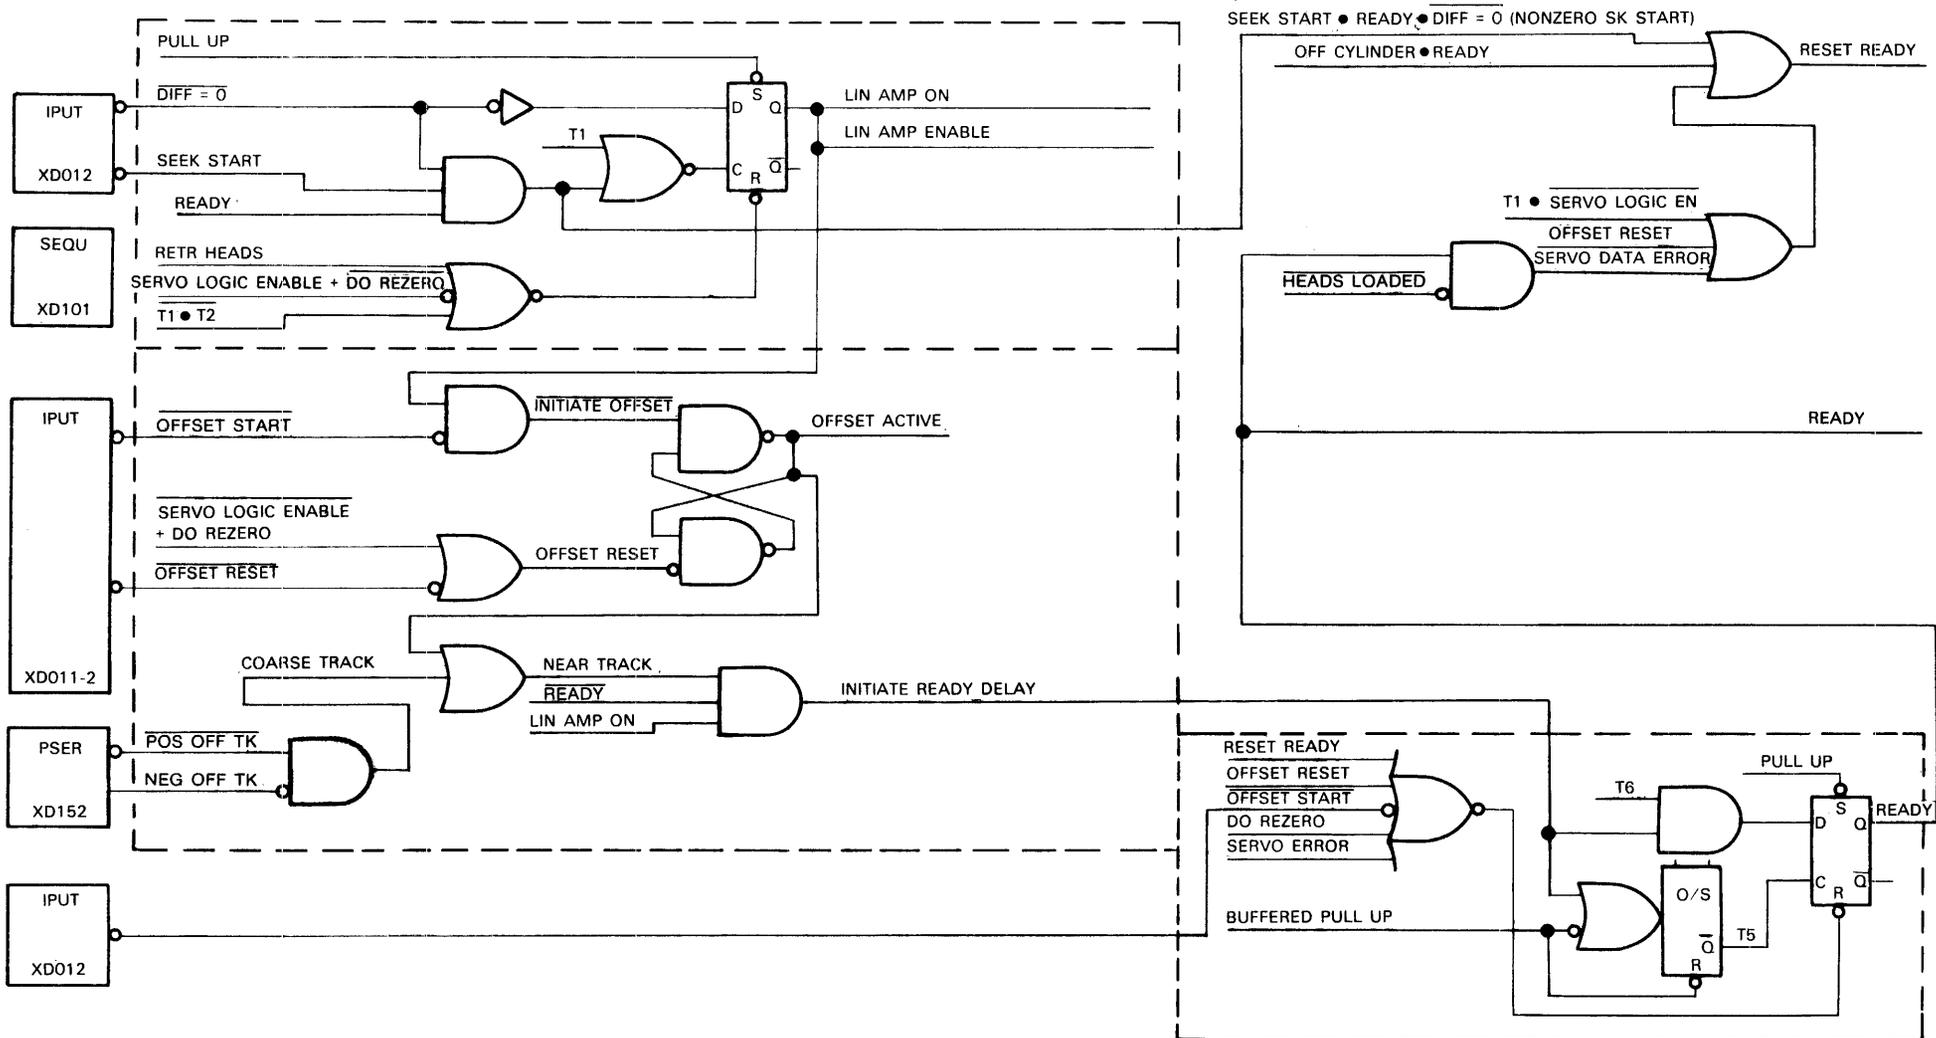
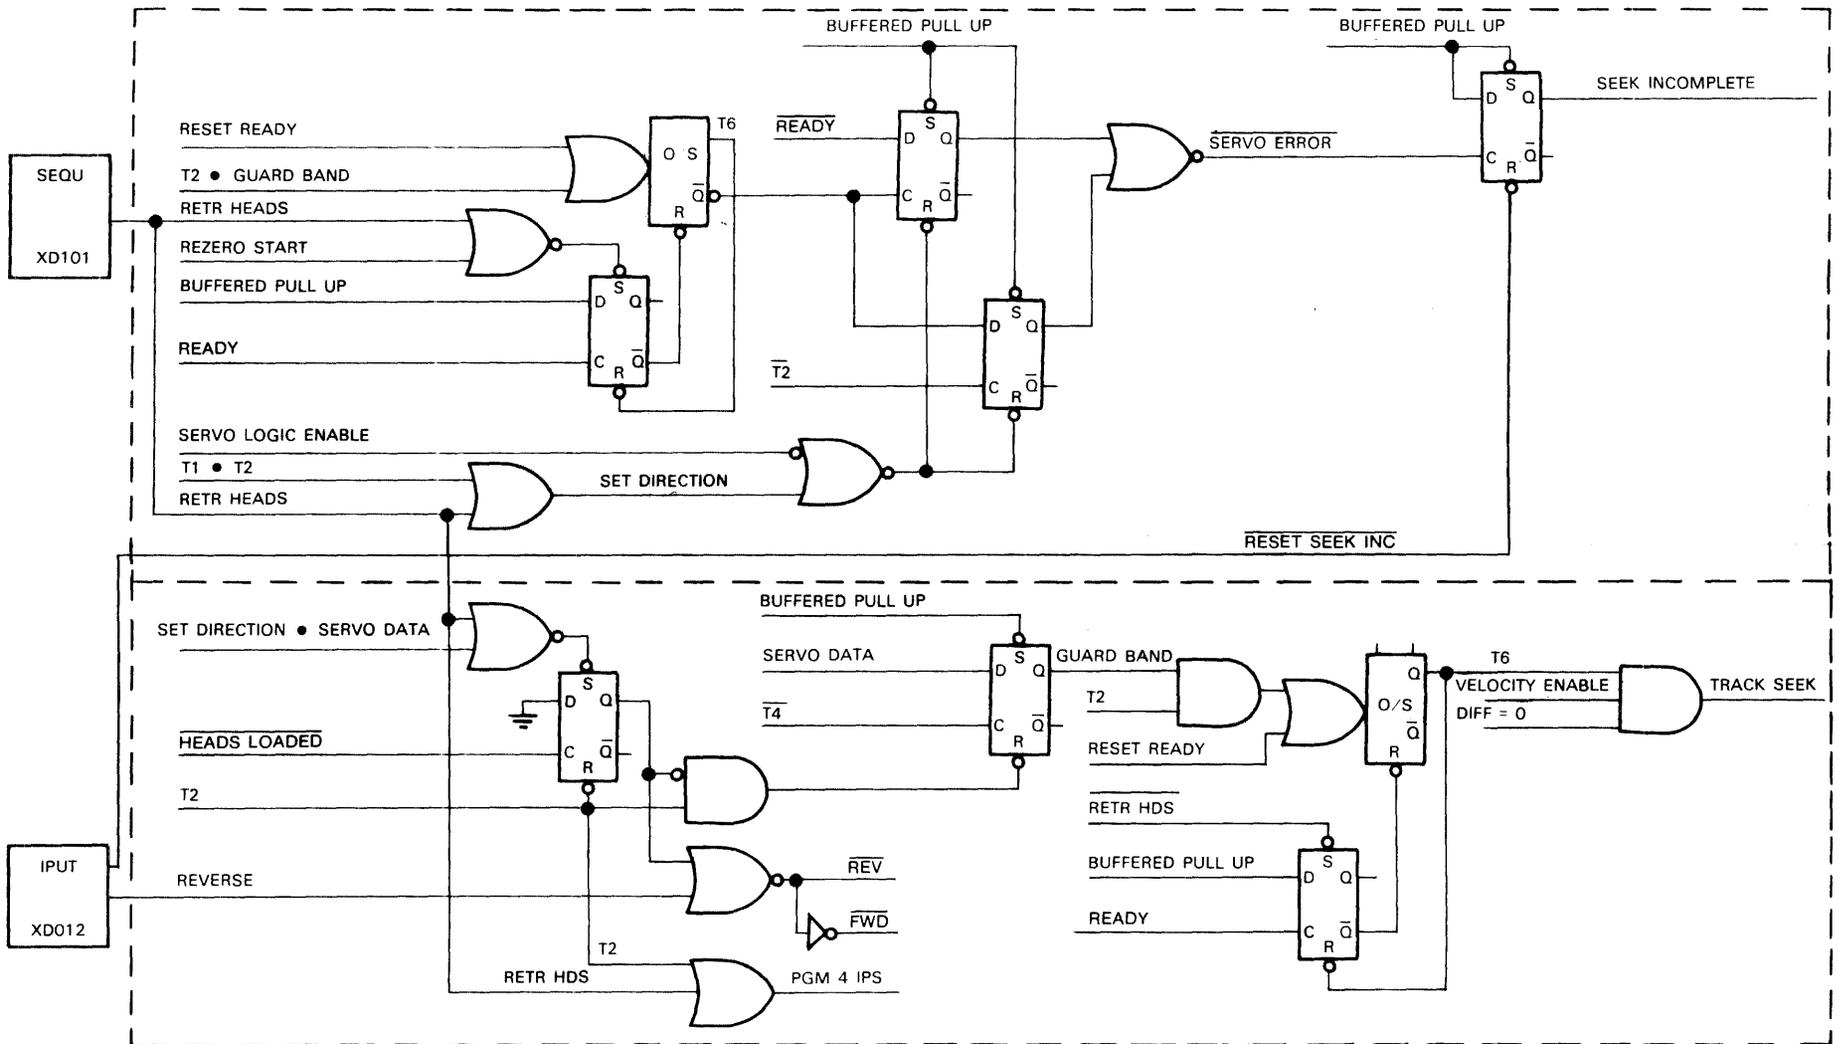

FIGURE 3-51. AMP ENABLE, READY DELAY, ALLOW READY AND READY
FIGURE 3-52. TRACK SEEK AND SEEK INCOMPLETE
Referring to Figure 3-51, LIN AMP ENABLE is latched true when T1 times out, provided the latch is not reset.
STOP VELOCITY being true sets T1, and when timed out the system is in the Position Control mode. Referring to Figure 3-51, COARSE TRACK becomes true when the carriage has positioned the heads near track center. This signal being true allows INITIATE READY DELAY becoming true, provided the linear amp is on and the system is not already in the ready state (READY is false).
Referring to Figure 3-51, READY is latched true when T5 (the initiate ready delay) times out, provided T6 has not timed out and the latch is not reset by one of the five reset conditions shown in the figure. How each reset condition is generated is shown in this figure (or Figure 3-52), except for OFFSET START; it takes the logic from the ready state for 5.85 msec (T4) to allow time for offset positioning by the programmed amount.
Referring to Figure 3-52 (lower right area), initiating a track seek is allowed (TRACK SEEK is true) before T6 times out, provided the velocity servo is enabled (VELOCITY ENABLE is true) and the difference count is zero (DIFF=0 is true). Major events leading to initiation of a track seek during a zero are (refer to lower half of figure):
- After entering the guard band, T6 is started and T2 is reset. (As indicated in Figure 3-51, T6 does not go false before the logic allows entering the ready state.) With T6 and VELOCITY ENABLE true, the logic enters the track seek state provided the difference count is zero.
Referring to Figure 3-52 (upper half), if T2 times out before starting T6 or T6 times out before allowing ready, the logic enters the seek incomplete state.